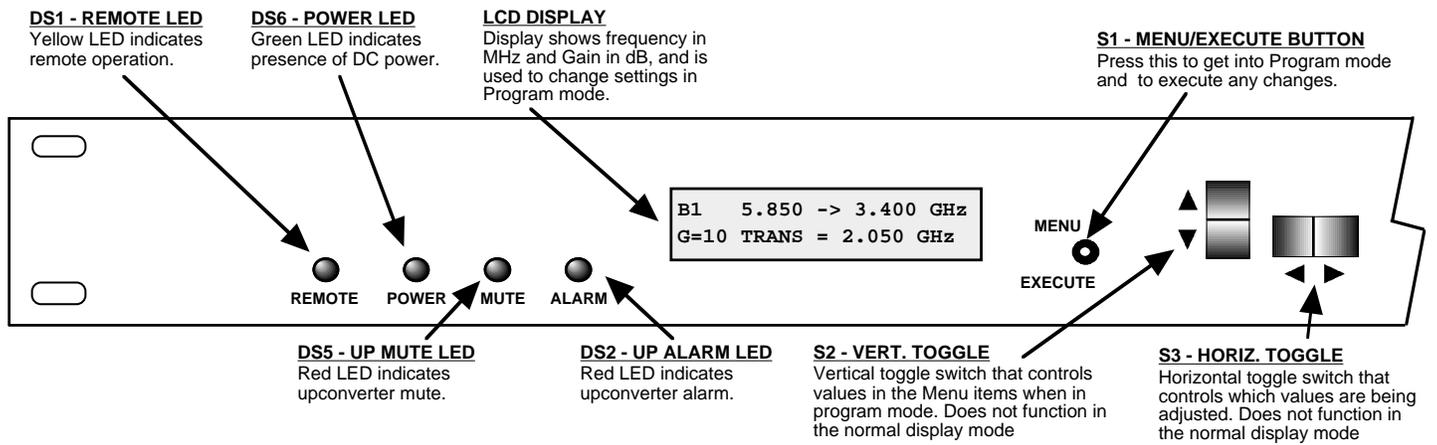

FIGURE 2.3 3116-T71 Front Panel Controls and Indicators
2.3 Front Panel Controls and Indicators - Figure 2.3 shows the front panel controls and indicators.
4. Be sure DS6 (green, DC Power) is on and DS2 (red, Alarm) is off (Figure 2.3).
2.6.1 Functions - This section describes operation of the front panel controls. There are three operator switches, the LCD display and alarm indicator LEDs. All functions for the equipment are controlled by these components. The functions are (see Figure 2.3):